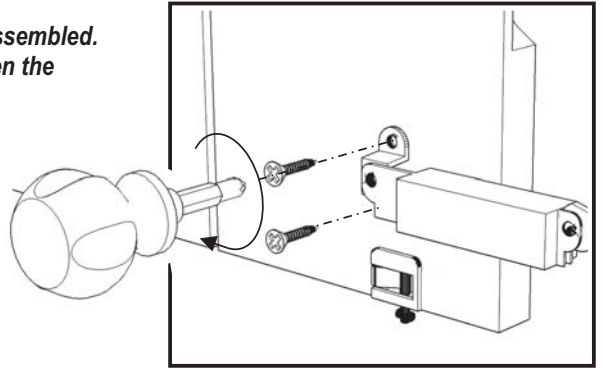

Figure 1
Attach Support to Side Panel (E) with Wood Screws into the pre-drilled holes. (See Figure 1)